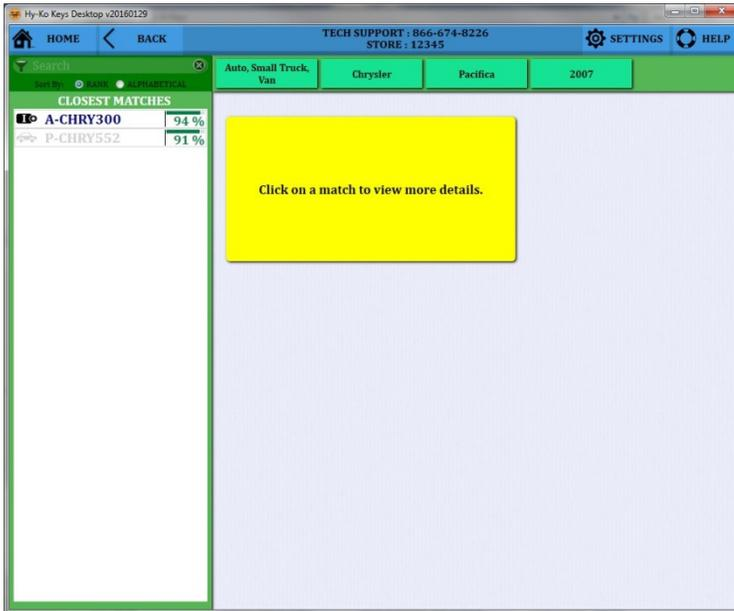

fig. 83
- Your list of possible keys for the vehicle chosen will be shown at the left (see fig. 83).